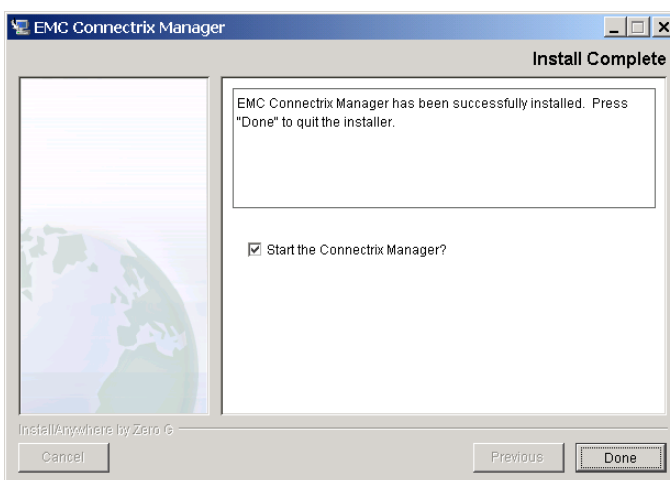

Figure A-15 **Connectrix Manager Installer - End Screen**
20. The installation process continues; when installation is complete, the window in Figure A-15 appears: